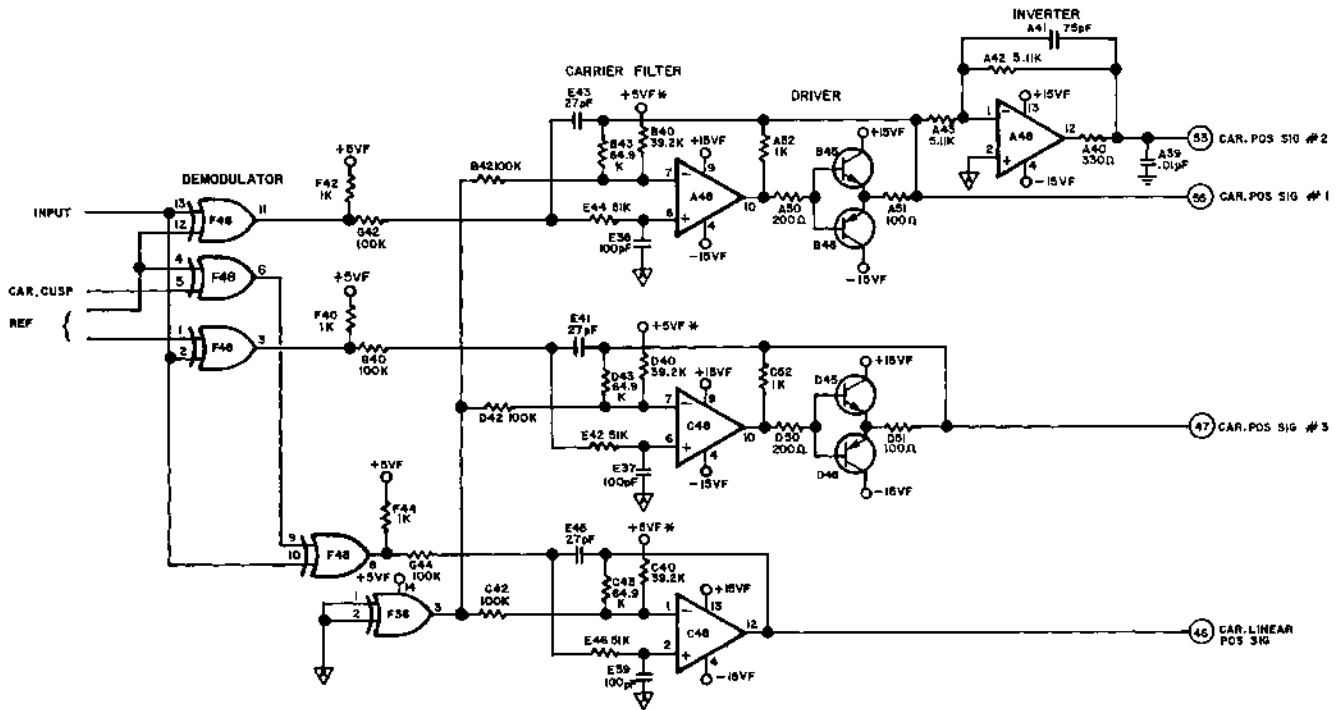
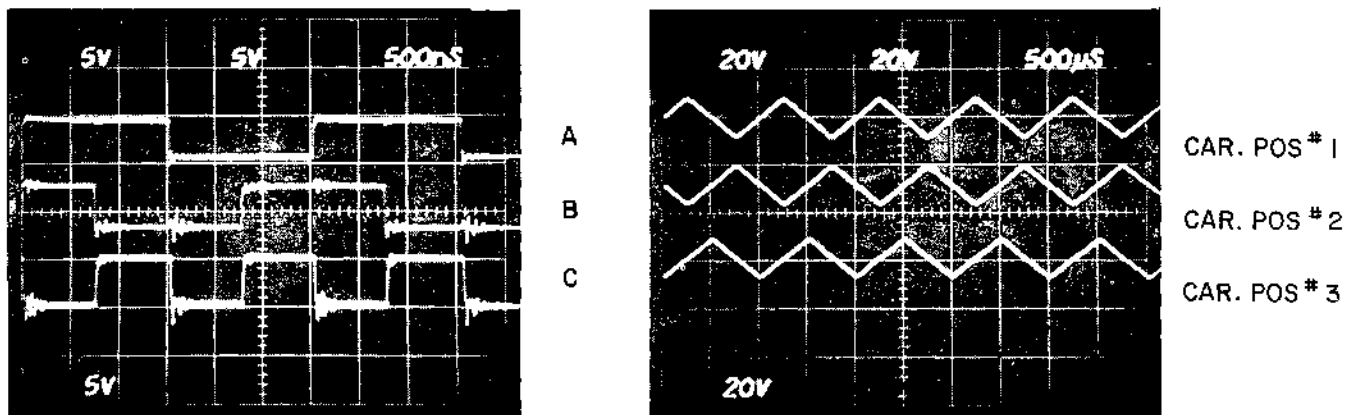
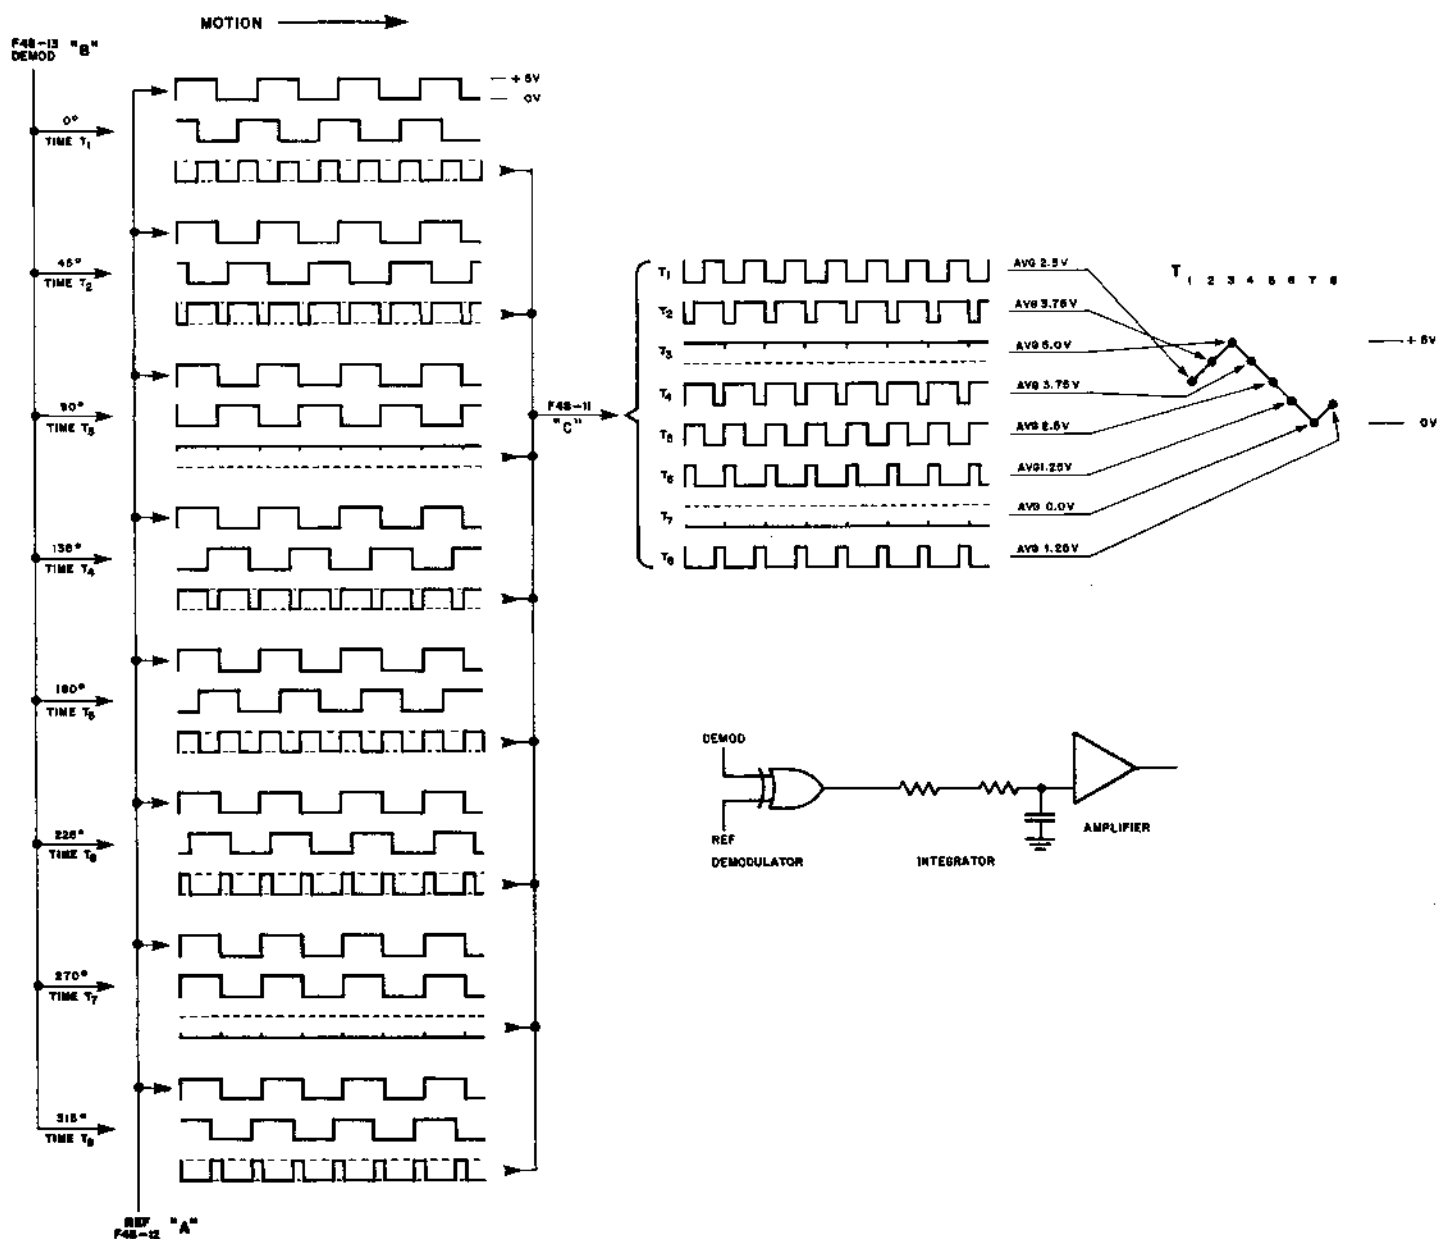

Figure 4-12 SERVO FEEDBACK DEMODULATOR/INTEGRATOR/AMPLIFIER
Figure 4-13 SERVO FEEDBACK DEMODULATOR/INTEGRATOR/AMPLIFIER WAVEFORMS
Figure 4-14 WAVEFORM ANALYSIS
Figure 4-12 is a partial schematic showing the Servo Feedback Demodulator/Integrator/Amplifier circuit. Figure 4-13 shows waveforms taken in this circuit.
As shown in Figure 4-13, by observing the two inputs to either F48-3 or F48-11 along with the gates' output on a multichannel oscilloscope which is synchronized to the sine-wave drive generator and slowly moving the carriage by hand, the square-wave input from comparator F10 (B) will appear to move with respect to the input on either pin 1 (F48-3) or pin 12 (F48-11) from the sine-wave generator (A). Then, the output (C) from either F48-3 or F48-11 will be a square wave whose relative HI-LO status will vary as the HI-LO states of the two inputs vary with respect to each other.
Figure 4-14 illustrates the development of the output waveform (C) from the two input waveforms (A and B), and further shows the saw-tooth waveshape developed in the integrating circuits for amplifiers A48-10 and C48-12. The output of A48-10 is then supplied to amplifier A48-12. These three amplifiers produce the waveshapes called CAR POS SIG #1, CAR POS SIG #2, and CAR POS SIG #3. In addition, when the carriage has stopped, the lower circuit shown in Figure 4-12 produces a signal called CAR LINEAR MODE, which is used to detent the servo.